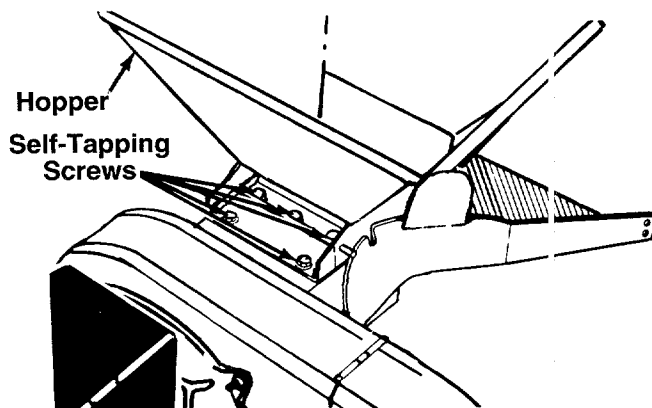

FIGURE 4.
- When attaching the hopper, first remove the five self-tapping screws from the frame of the unit. Place the hopper in position on the shredder. See figure 4. Start all five self-tapping screws, then tighten securely using a 1/2" socket wrench.